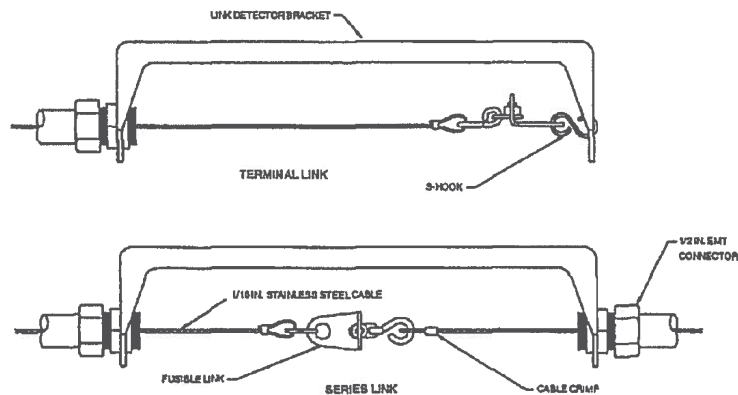

Figure 2-10. Model FLK-1 Fusible Link
- The Model FLK-1 fusible link kit includes a 10 in. steel bracket, two (2) 1/2 in. EMT connectors, two (2) cable crimps, and two (2) "S" hooks. Fusible links must be ordered separately. See Figure 2-10.
- The Model FLK-1A fusible link kit includes an 8 in. steel bracket, two (2) 1/2 in. EMT connectors, two (2) cable crimps, and two (2) "S" hooks. Fusible links must be ordered separately.